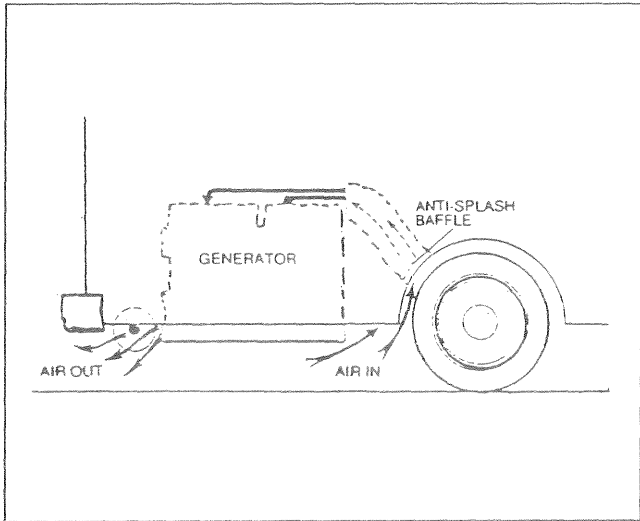

Figure 24 — Air Inlet Using Ductwork
- Using ductwork (Figure 24 on Page 21). The installer must be sure air is available to the top of the generator since air inlets are located at the top.